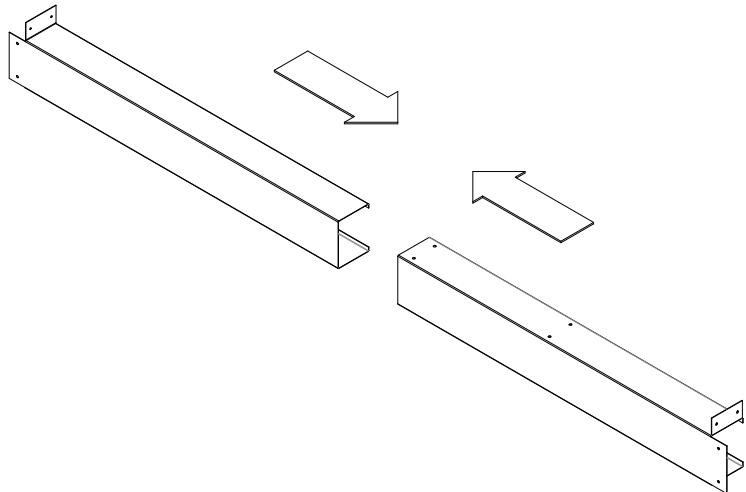

Figure 16: Steel Stud Assembly
- Take the two steel stud pieces and slide them into each other. The flanges of each piece should be at the end of the assembly, as well as facing upwards as shown in Figure 16.